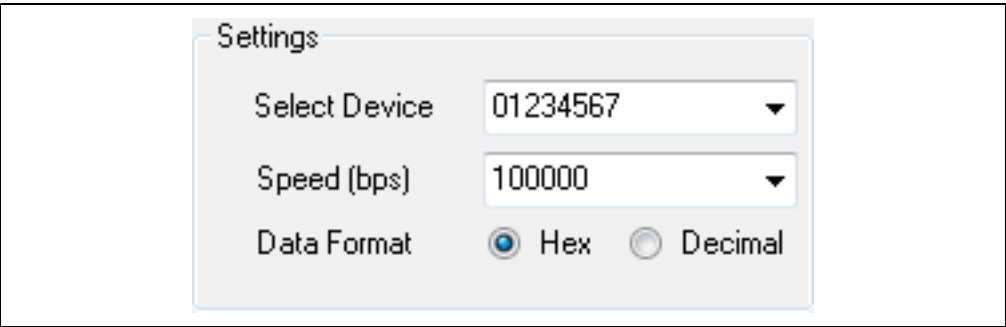

FIGURE 3-7: Device Settings.
1. If multiple MCP2221A devices are connected, choose the one to be used from the Select Device drop-down menu. Also, select the desired communication speed from the Speed list, as shown in Figure 3-7.